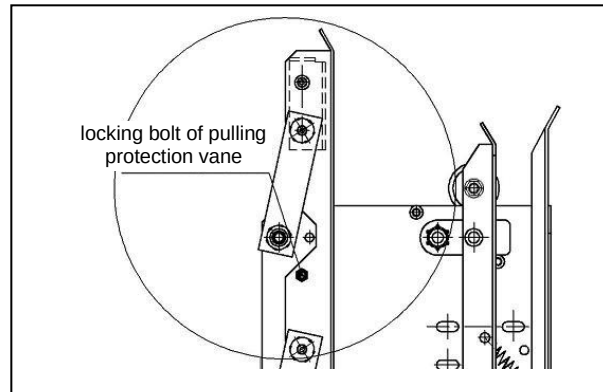

Fig. 3-5 Pulling protection vane bolt
- ◆ There is pulling protection vane bolt on the soleplate of the door cutter, and the pulling protection vane is lifted as is shown in Fig. 3-5